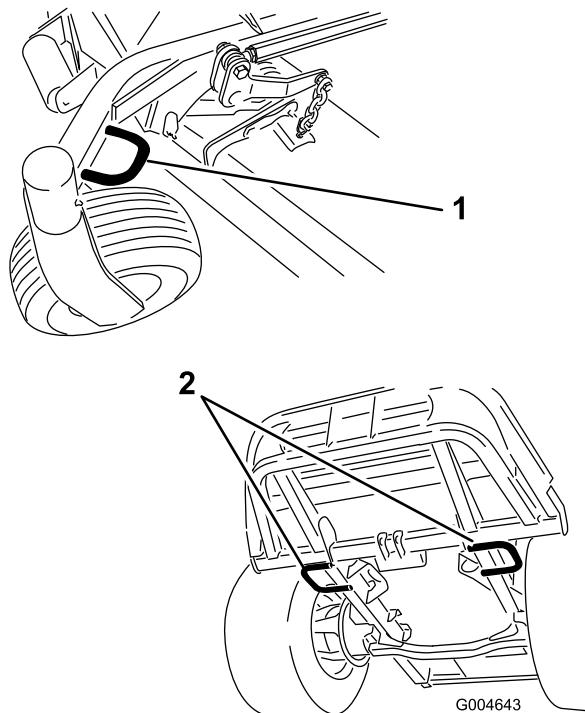

Figure 39
- Securely fasten the machine to the trailer or truck with straps, chains, cable, or ropes as required by local traffic regulations in your area (Figure 39).